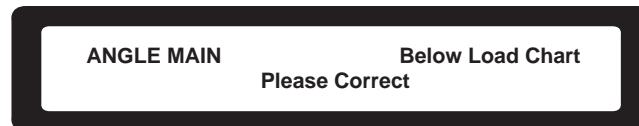

Figure 28. Minimum Boom Angle Alarm Screen
- 1) The minimum boom angle alarm screen (figure 28) will appear on the LCD display (figure 17, item 1).
- 3) After approximately 10 seconds, the LCD display (figure 17, item 1) will alternate between the minimum boom angle alarm screen (figure 28) and the primary operating display screen (figure 25).